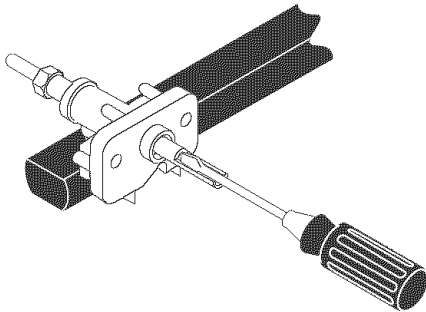

Figure 13
4. Adjust the "LOW" Setting of Surface Burner Valves (see Figure 13)